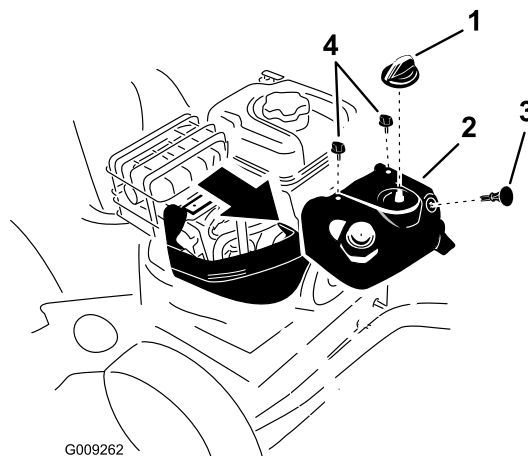

Figure 56
Note: To access the spark plug, you must first remove the upper snow hood (Figure 56).
1. Remove the choke knob and the ignition key (Figure 56).
2. Remove the 2 screws that secure the upper snow hood to the machine (Figure 56).